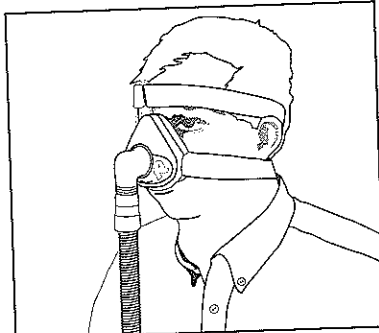

Figure 6
- Position mask loosely on face. Adjust headgear straps so mask is snug and comfortable **Figure 6**.